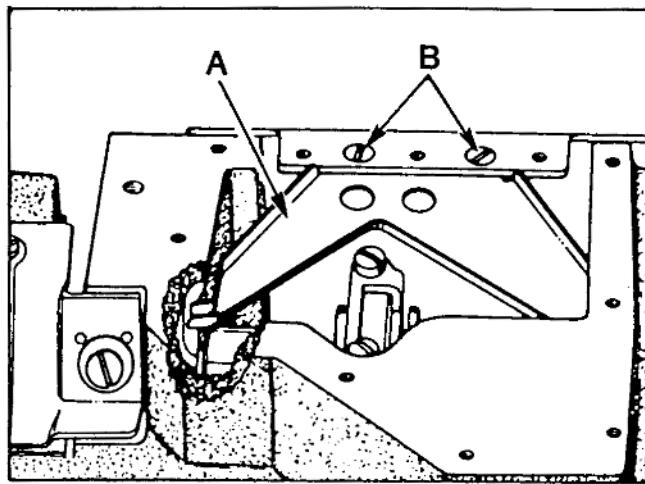

Fig. 18
The oil drip plate (A, Fig. 18) located in the oil reservoir should be positioned with its tip in the recessed cut out in the bed casting, as far to the left as possible without touching. It has elongated mounting holes and can be adjusted by loosening (2) screws (B)in top of the oil reservoir back cover to position as required, retighten screws.